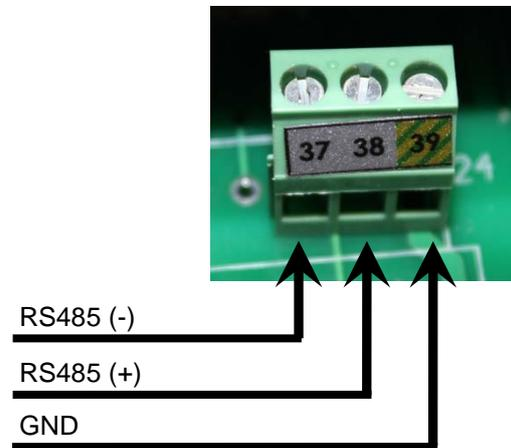

Figure 11: Connections for Modbus RTU (slave) output
4. Install each wire into the terminal block (Figure 11) :